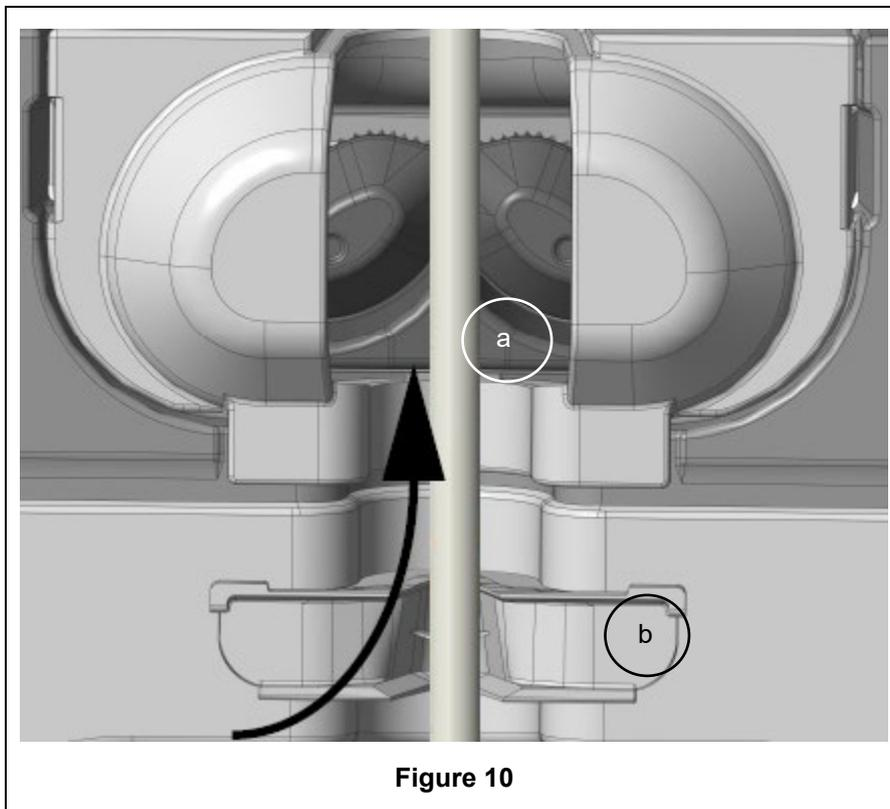

Figure 10
3. Two clamps (see Figure 10) hold the probe cable securely in the chamber.